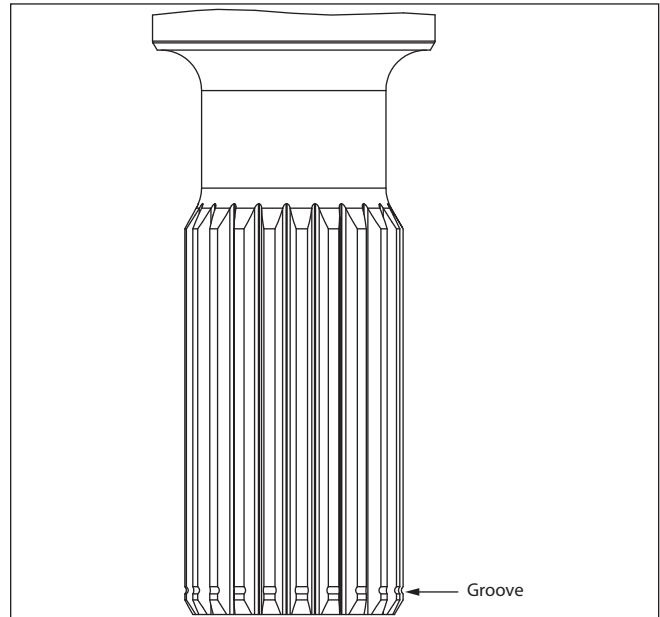

Figure 8. New shaft identification groove
- vii. Insert a new shaft seal spacer into the seal pocket. At least 1 spacer must be used when using the dust seal to avoid contact between the dust seal and the shaft seal. A maximum of 2 spacers may be used when replacing a shaft seal. A dab of grease or petroleum jelly may be used to hold the spacer(s) in place so that they do not fall into the retaining ring groove. The purpose of adding another spacer is to position the shaft seal in a new location on the shaft sealing area. If using the spacer, install the spacer between the shaft seal and the retaining ring. See Table 1 for determining how many spacers to use. This depends on whether you have an old or a new drive shaft configuration. New shafts will have a small circular groove machined in the major diameter of the input spline (Figure 8) or across the key way for keyed shafts.